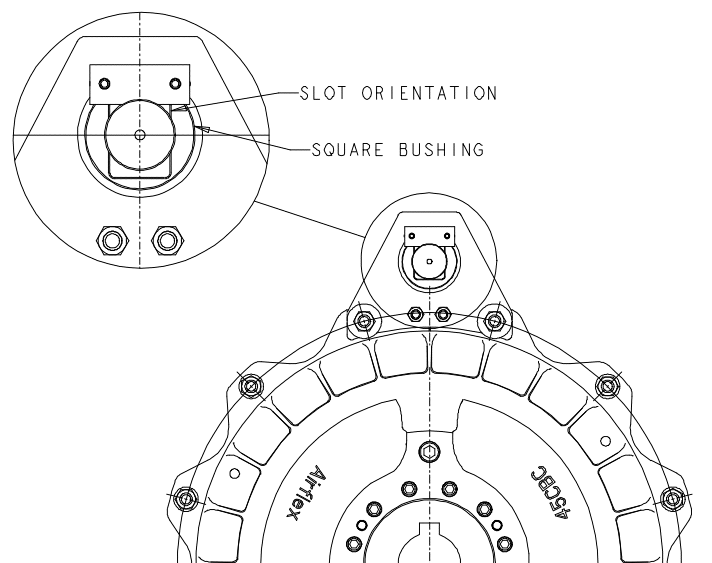

Figure 8
- 2.5.1.7 Install square bushing (38) and secure with retaining ring (48), refer to Figure 8 for proper orientation.
2.6.7 Install square bushing (52), with the short sides of the rectangle and secure with retaining ring (57), refer to Figure 8 for proper orientation.
2.7.7 Install square bushing (38) and secure with retaining ring (48), refer to Figure 8 for proper orientation.
- 2.7.15 Install square bushing (52) and secure with retaining ring (57), refer to Figure 8 for proper orientation.